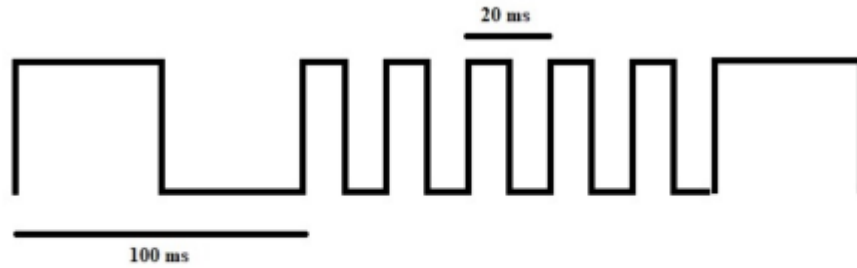

Figure 11: Qno.2 Waveform to be produced
2. Generate the periodic waveform as shown in figure 11. The waveform should be produced at pin zero of port zero (P0.0). The XTAL frequency is 11.0592 MHz. Observe the waveform on an oscilloscope and measure the ON and OFF times.